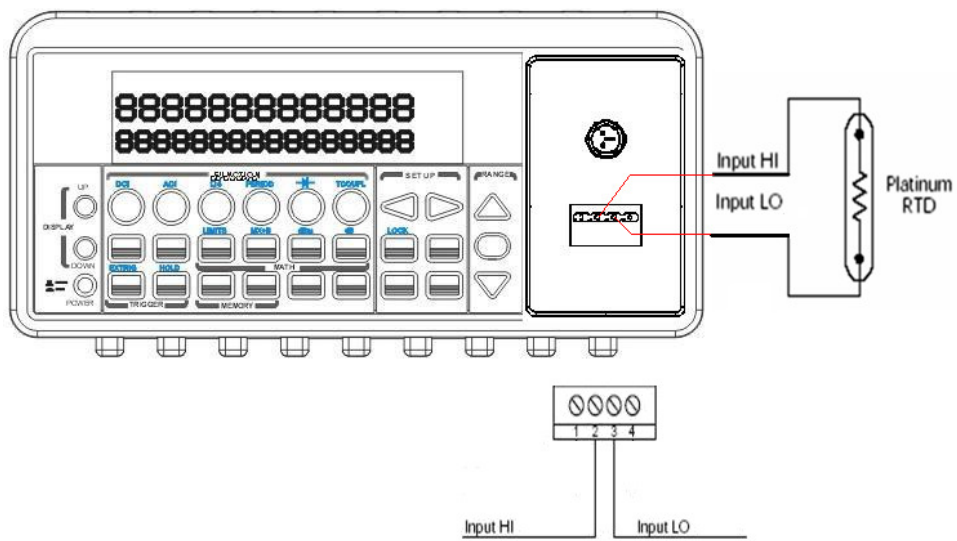

Figure 3-14
- ① Use terminals switch to select front terminals.
- ② Insert a specified adapter into the front terminals. Connect the low thermal patch leads to the adapter as shown in **Figure 3-14**.
- ③ Configure sensor type,transducer (2W) and unit using CONFIG + TEMP and ◀ or ▶. When ready, press ENTER button. For more information, refer to the section 4.1.8.
- ④ Press TEMP button.
- ⑤ Place RTD in the desired position and take the reading on the display.